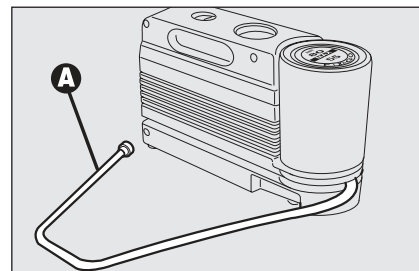
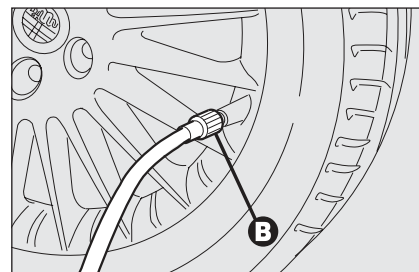

fig. 17
fig. 18
- ☐ loosen tyre inflation valve cap, take out the filler hose **A-fig. 17** and screw the ring nut **B-fig. 18** on the tyre valve;